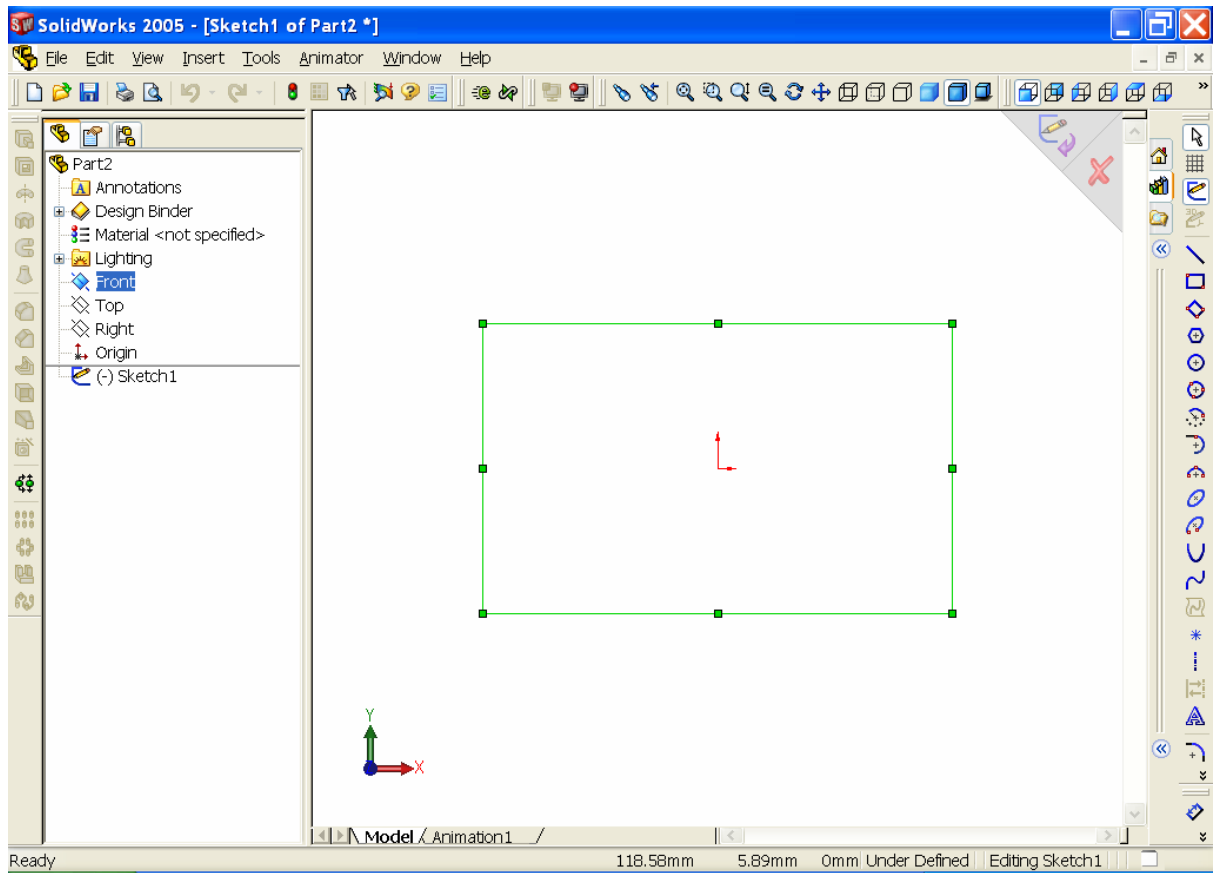

Figure 4 Starting a new sketch.
3. Draw the sketch of the model using the Line and the Circle tools, refer to Figures 4 through 7.
6. Choose the **Sketch**  button from the Standard toolbar. The **Sketch tools** toolbar becomes highlighted. The sketching environment is invoked and the plane is oriented normal to the view i.e., parallel to screen. You will notice that a red color origin is displayed in the center of the screen, indicating the sketching environment. The default screen appearance of the sketching environment of SolidWorks is shown in Figure 4.